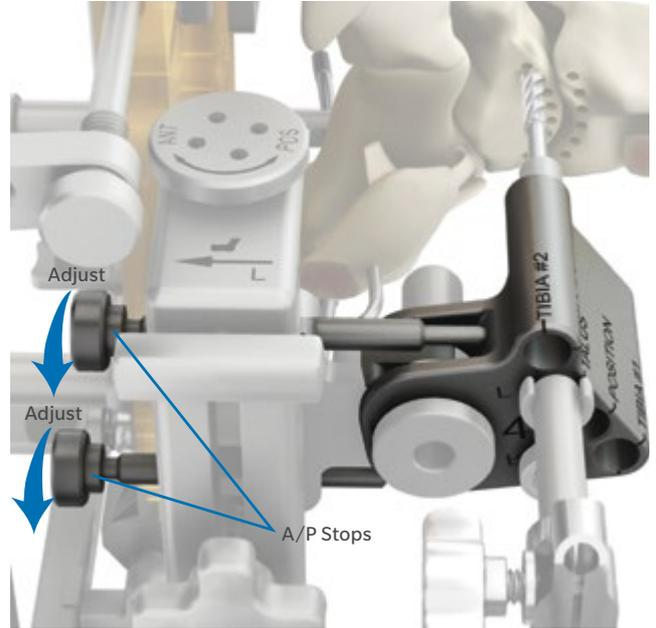

Fig. 51
- Position each A/P Stop by turning the knob until the tip of the Stop contacts the Cutting Guide (Fig. 51).